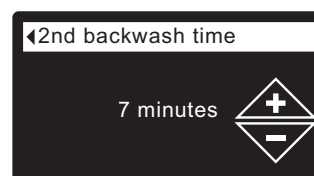

FIG. 84
- 8c. **Second backwash time:** Press the UP (▲) or DOWN (▼) buttons to change the second backwash time. Hold the button down to rapidly advance. The time can be set from 0 to 30 minutes (See Figure 84).